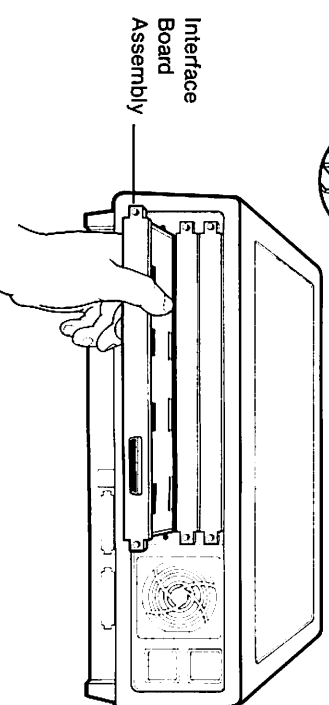

Figure 4. Tandy 2000 Expansion Slots
5. Select an empty slot. Pull the lock buttons on either side of the panel strip covering the selected slot (refer to Figure 4) to free the panel from the back of the main unit. Remove the panel strip and discard. The panel strip is replaced by the interface board assembly.